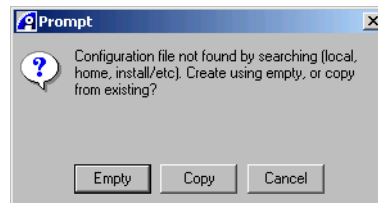

Figure B-9 Error when the configuration file is not found
- If no configuration file exists for RealView ICE, RealView Debugger displays the prompt dialog box that is shown in Figure B-9 on page B-12.